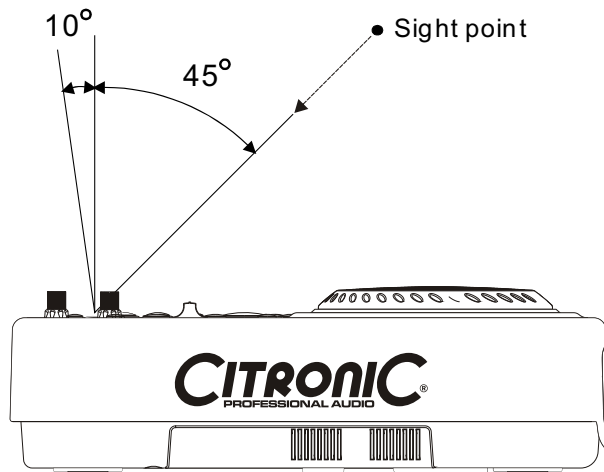

Figure 1
- The unit panel's LCD's are designed to be clearly visible within the angles shown in Figure 1. Mount the unit panel so that the visual angle is within this range.